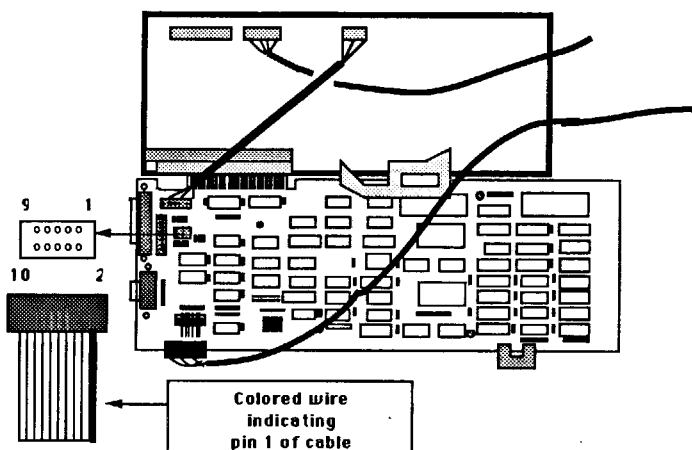

Figure 12
4. Connect the other end of the Apple joystick adaptor cable to the **J1** connector of the Trackstar board. Pin 10 of the board connector is missing, and pin 10 of the cable connector is blocked, to ensure proper connection. See Figure 12.